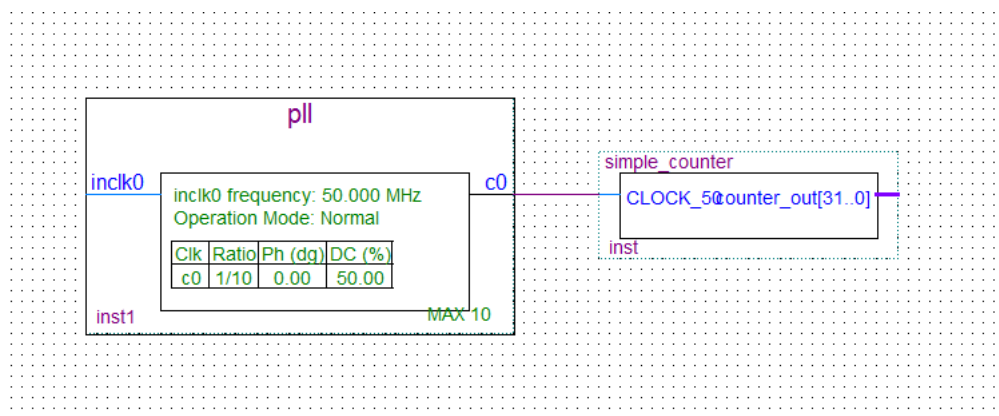

Figure 3-15 Draw a Bus Line connect pll c0 port to simple_counter CLOCK_50 port
13. Click and drag a bus line from the c0 output to the simple_counter clock input. This action ties the pll output to the simple_counter input (see **Figure 3-15**).